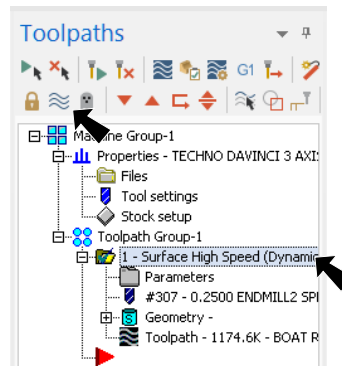

Fig. 24
Step 1. Use **Toggle toolpath display**  in Toolpaths Manager to turn off toolpath display (Alt-T), Fig. 24.